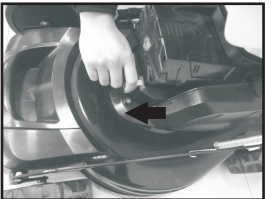

Fig.6B
2. Remove the isolator key. (Fig.6B)